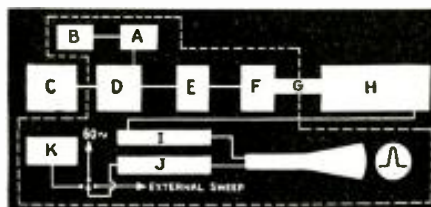

Fig. 1. Block diagram of the oscilloscope illustrated in Fig. A showing circuit sequence.
All the sections of the block diagram (Fig. 1) enclosed by the dotted lines are contained in the single attractive metal case shown in Fig. A. The controls have been divided into 4 groups—(1) Horizontal, (2) Vertical, (3) Linear Sweep, and (4) Alignment Capacities—so that the analyzer is easily operated and the necessary adjustments may be quickly made.
The fixed oscillator (A, in Fig. 1) which operates at a frequency of 800 kc., is frequency modulated ± 15 kc. by the "wobbler" (B), thus producing a bandwidth of 30 kc.